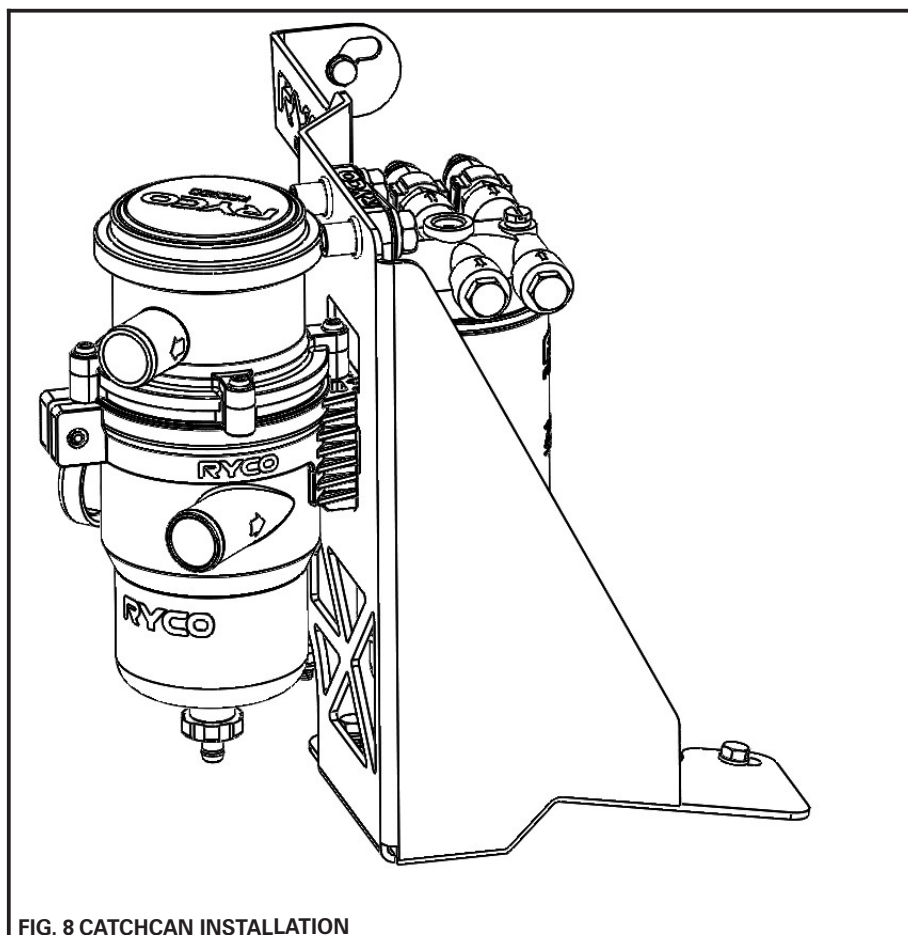

FIG. 8 CATCHCAN INSTALLATION
1. Mount the catchcan onto the bracket by sliding the RCC351 nylon bracket onto the catchcan mounting position so it sits behind the factory airbox. Rotate the RCC351 counter clockwise so the ports are facing toward the engine PCV valve and tighten the plastic bracket retaining screw, as per Fig.8 below. (If the RCC351 is fitted with a 2mm-thick bracket, discard it and use the 3mm-thick bracket from the RVSK106 kit instead)